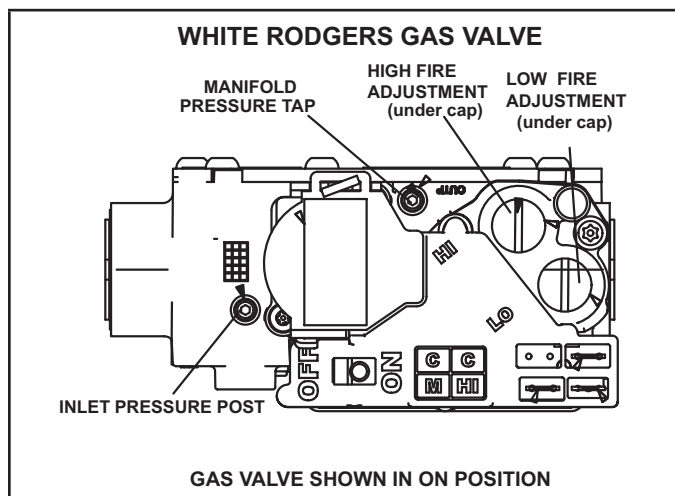

Figure 69
Gas Valve Operation (Figure 69)
- 6 - Move gas valve switch to OFF. See Figure 69.
- 8 - Move gas valve switch to ON. See Figure 69.
An inlet post located on the gas valve provides access to the supply pressure. See Figure 69. Back out the 3/32 hex screw one turn, connect a piece of 5/16 tubing and connect to a manometer to measure supply pressure. See TABLE 29 for supply line pressure.
A manifold pressure post located on the gas valve provides access to the manifold pressure. See Figure 69. Back out the 3/32 hex screw one turn, connect a piece of 5/16 tubing and connect to a manometer to measure manifold pressure.